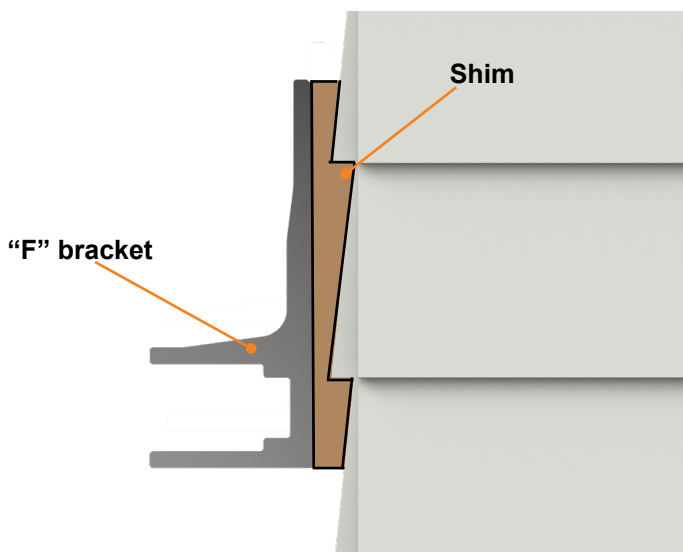

Fig.18
- For installation on siding that is ridged or layered, shims will be needed to create a flat, even surface for mounting. Shims are not included, but may be fabricated or purchased according to Figure 18.
**NOTE:** For siding with ridges or an uneven profile, shims are required for installation. See Figure 18 for an example.